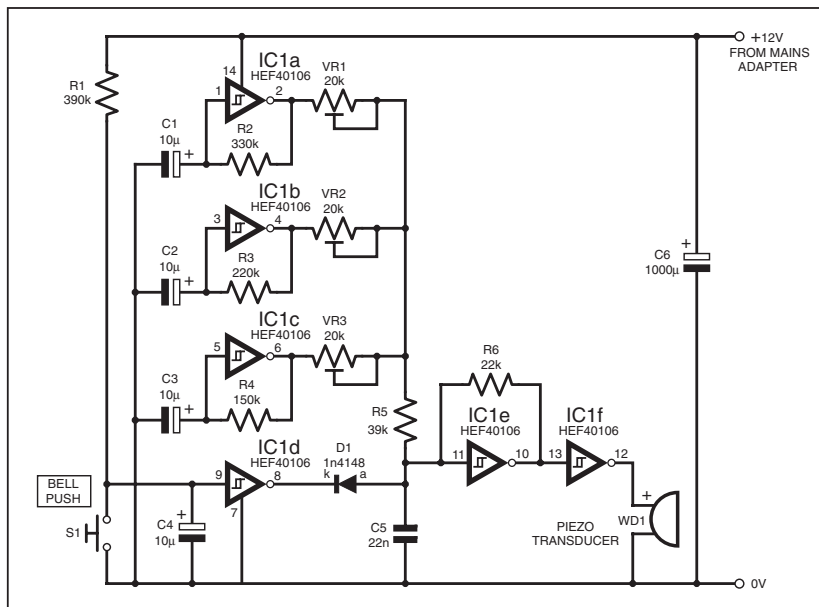

Fig.1. Circuit diagram for the Random Doorbell.
**T**HE Random Doorbell circuit diagram shown in Fig.1 plays about 17 million tunes, thus employing about one component for every one million tunes played! Low frequency oscillators IC1a to IC1c provide eight possible combinations of notes, while timer IC1d plays a sequence of about eight notes every time pushbutton switch S1 is pressed – resulting in 84 tunes. (There are bound to be some world hits in there!)